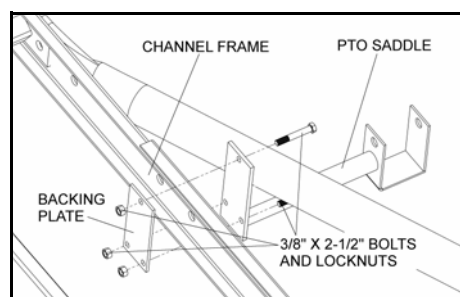

Figure 3.50
18. Install PTO saddle on channel frame and secure with backing plate and three 3/8" x 2-1/2" bolts and locknuts as shown in Figure 3.50.